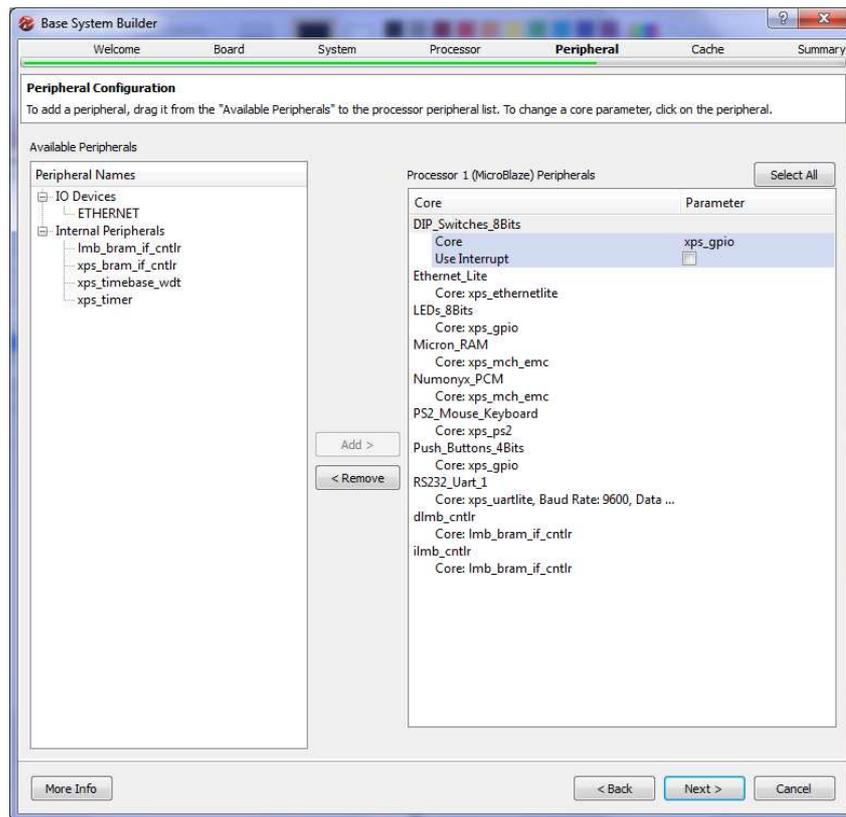
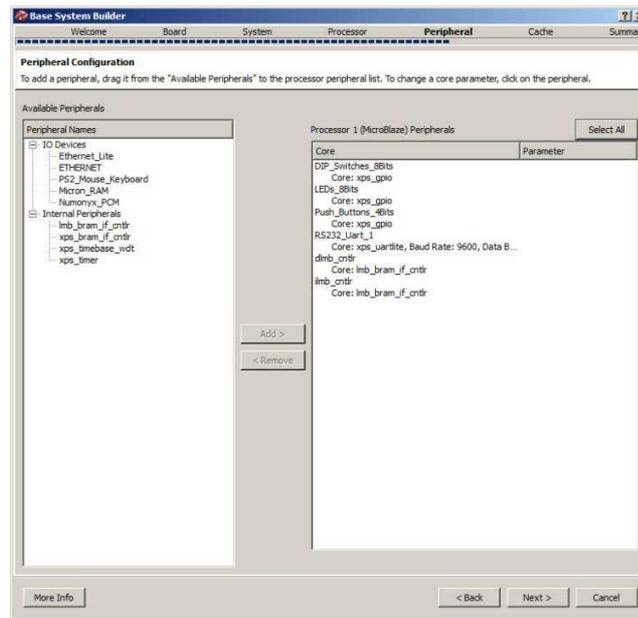

Figure 8. Peripheral Configuration (Step 8 - 1)
Figure 9. Peripheral Configuration (Step 8 - 2)
**Step 8:** After configuring the processor we are ready to configure the peripherals (Input/Output devices). The peripheral configuration screen is shown in Figure 8. In this screen a list of all the available peripherals is presented. From this list the designer can choose which peripheral to be connected to the processor. The screen is divided into two lists. The right-hand side list shows the peripherals that are not connected to the processor, while the left-hand side list shows all the peripherals that are currently connected to the processor. By default several peripherals will be connected to the processor as shown in **Figure 8**. In this project we do not need many of these devices so we will remove many of them as shown in **Figure 9**. Remove the following devices: